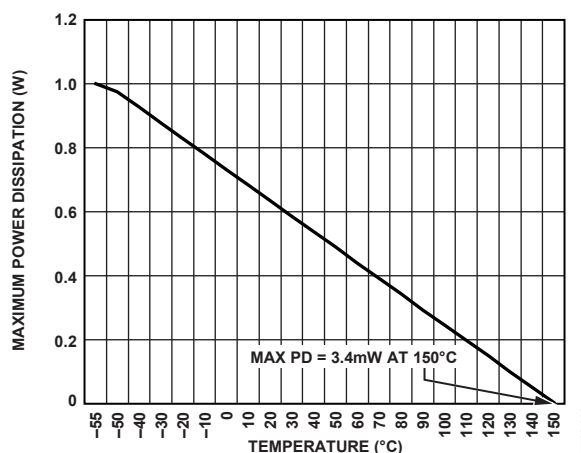

Figure 4. SOIC\_N Maximum Power Dissipation vs. Temperature
1 Values relate to package being used on a standard 2-layer PCB. This gives a worst-case  $\theta_{JA}$  and  $\theta_{JC}$ . See Figure 4 for a plot of maximum power dissipation vs. ambient temperature (TA).